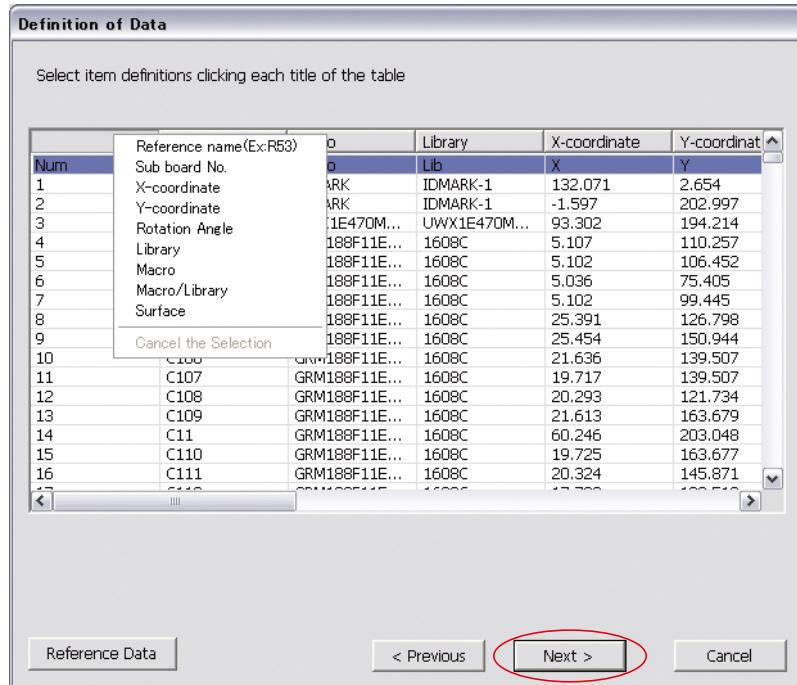

Figure 1-40 Definition of Data
Step6: Press each column header, parameter's item is displayed, as shown in Figure 1-40. Select parameters that matched with each column. After all the settings are completed, press **Next**.